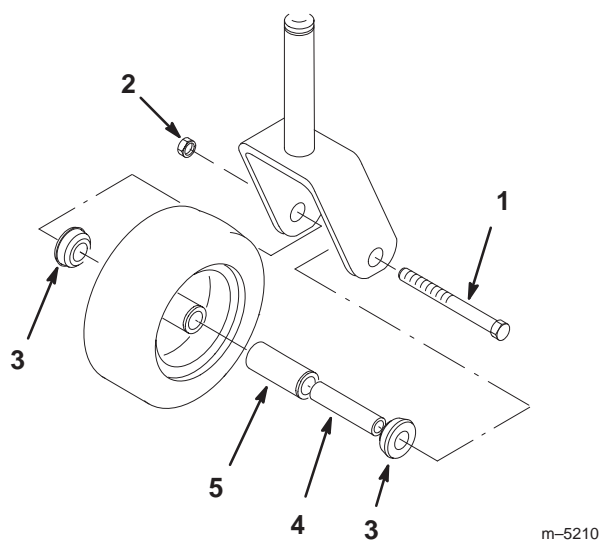

Figure 63
1. Remove the locknut and wheel bolt holding the caster wheel to the caster fork (Fig. 63).
2. Remove one bushing, then pull the spanner bushing and roller bearing out of the wheel hub (Fig. 63).
3. Remove the other bushing from the wheel hub and clean any grease and dirt from the wheel hub (Fig. 63).
4. Inspect the roller bearing, bushings, spanner bushing and inside of the wheel hub for wear. Replace any defective or worn parts (Fig. 63).
5. To assemble, place one bushing into the wheel hub. Grease the roller bearing and spanner bushing and slide them into the wheel hub. Place the second bushing into the wheel hub (Fig. 63).
6. Install the caster wheel into the caster fork and secure with the wheel bolt and locknut. Tighten the locknut until the spanner bushing bottoms against the inside of the caster forks (Fig. 63).